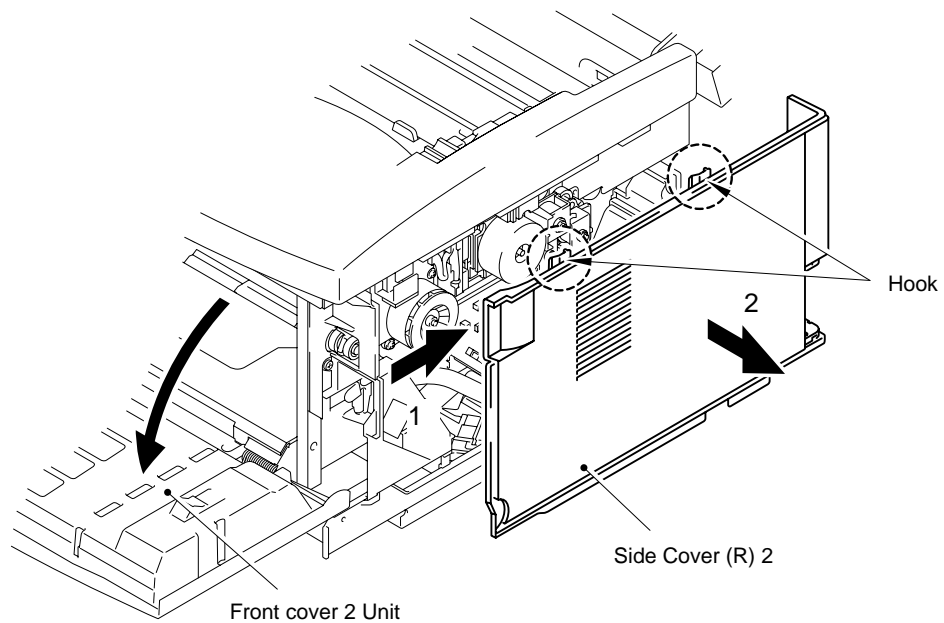

Fig.7-13
- 2) Slide the side cover (R) 2 in the direction of the arrows as shown in Fig.7-13.
- 3) Remove the side cover (R) 2 by releasing the two hooks.